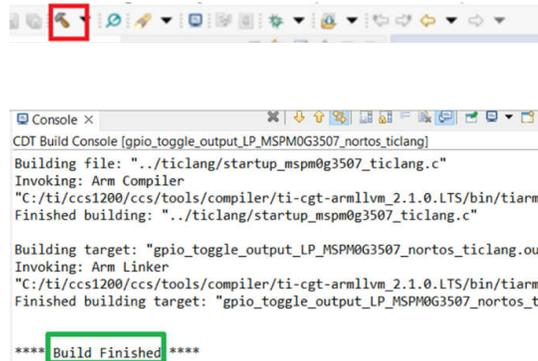

Figure 2-37. Successful Build
- As users finish evaluating the software, click the *build* icon in the main toolbar, as shown in Figure 2-37. The appearance of *Build Finished* shows a successful completion.